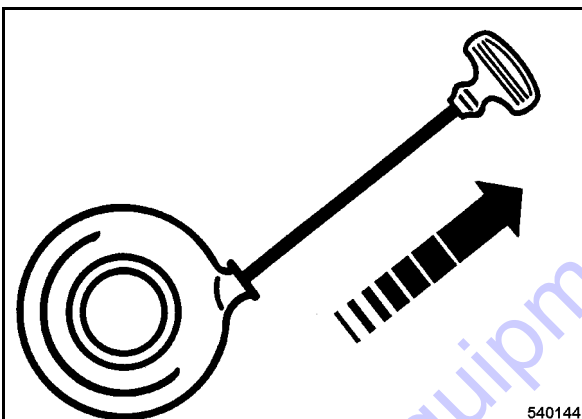

Fig. 14
- Pull the starter handle quickly and with power (Fig. 14).